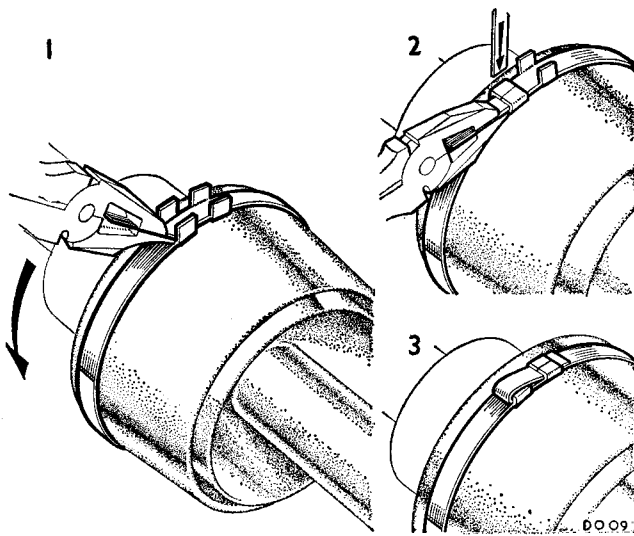

Fig. G.6
- (25) Hold the shaft in a vice and locate the inner race on the shaft. Press the joint assembly against the spring ring whilst locating the ring centrally and contracting it in the chamfer of the inner race with screwdrivers. With the spring ring centralized, a sharp tap on the end of the stub shaft with a soft faced mallet will close up the ring, and the assembly can then be tapped on to the drive shaft. Make sure that the shaft is fully engaged, with the inner race against the circlip and that the inner ring has expanded inside the joint.
- (26) Slide the rubber boot over the bell joint until the radiused rib registers in the locating groove, and secure it with the large clinching clip using Service tool 18G 1099 (Fig. G.6). This is fitted with the tab pulled through away from the direction of forward rotation. Locate the other end of the boot in the groove in the drive shaft and secure it with the small clinching clip using pliers 18G 1099.
- (27) Lubricate the yoke end of the drive shaft and the inside of the yoke housing seal and slide the seal onto the shaft. Fill the cavity in the sliding joint yoke with $\frac{3}{4}$ oz. (21 gm.) of Duckham's M-B grease and fit the yoke to the shaft. Locate the seal into the groove on the shaft and the other end over the sleeve location. Push the shaft to the bottom of the yoke so that grease is driven into the seal. Hold the outer lip of the seal open to allow air and surplus grease to escape, ensure that the diameter of the bellows does not exceed 1.75 in. (44.5 mm.). Secure the yoke seal with clinching clips using pliers 18G 1099.